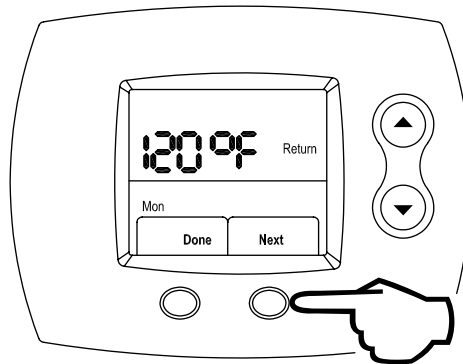

Figure 67
Step 20: Press the **RIGHT** (Next) button to lock in the Return period water temperature, as shown in Figure 67.